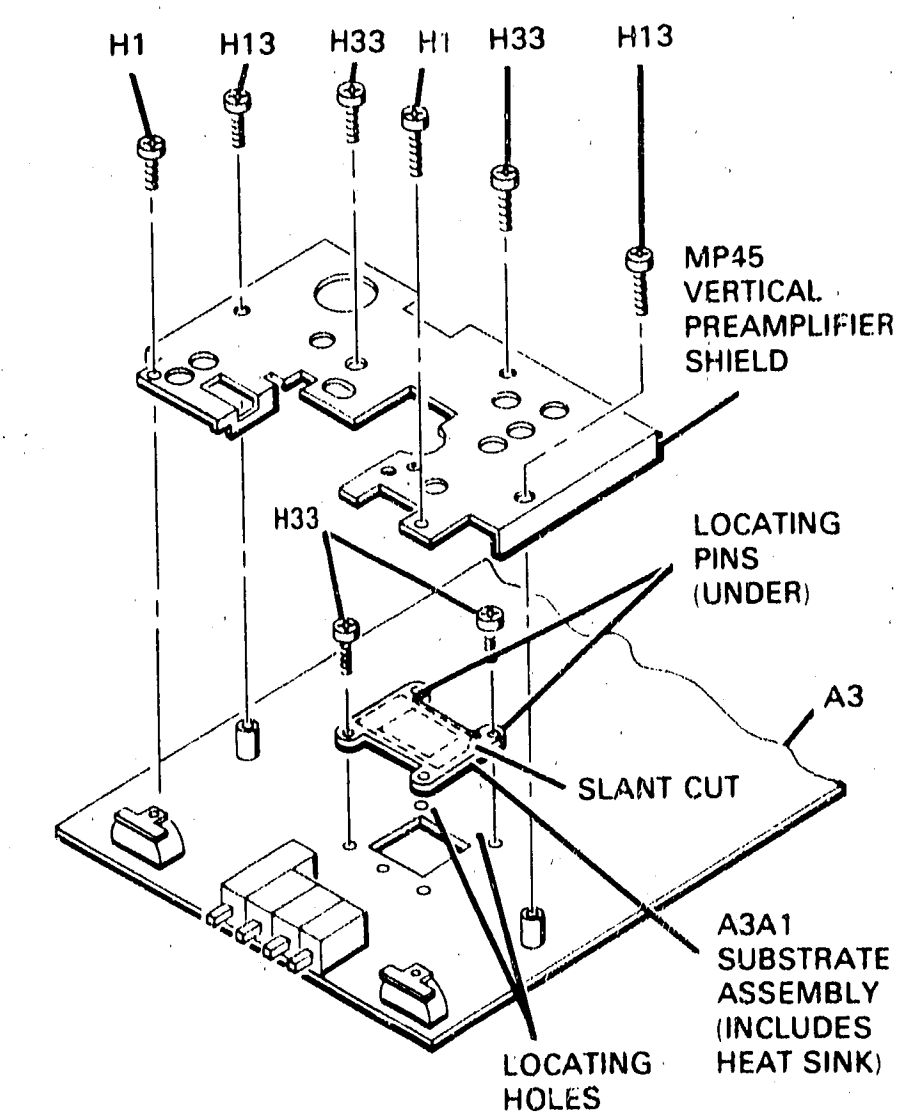

Figure 8-16. A3A1 Removal
To remove A3A1, see figure 8-16 and proceed as follows:
- e. To reinstall IC, reverse removal procedure; be certain that orientation of location pins is as shown in figure 8-16.